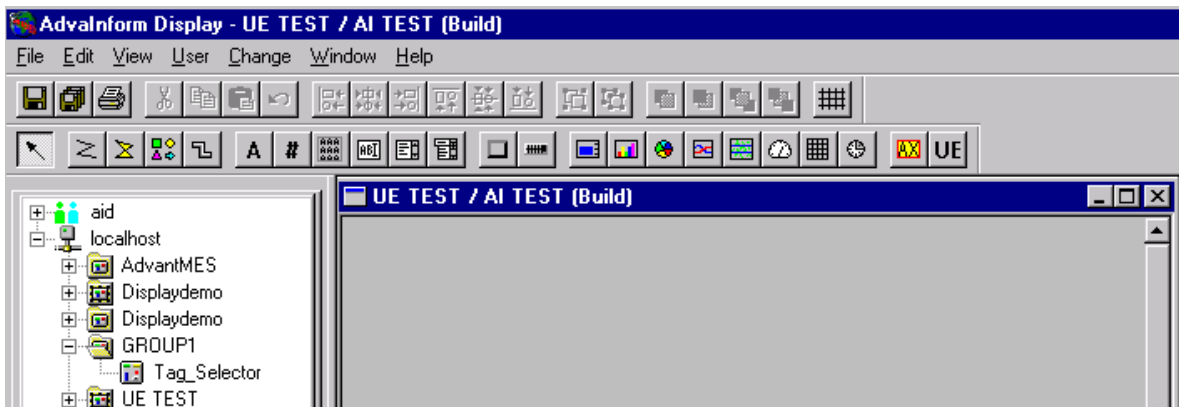

Figure 139. New Builder Window for AI TEST
- b. In the New Leaf dialog, specify AI TEST as the user element name, then click **OK**. This opens a new user element window, Figure 139.